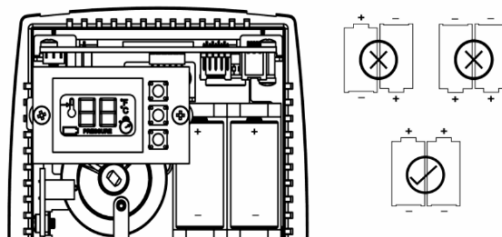

Figure 7. WPT Batteries
8. Install the batteries and close the top cover. The battery polarities are as shown in Figure 7.
Replace battery with CR123 type or equivalent from Panasonic, Sanyo, Energizer or Duracell only. Use of any other battery may present a risk of fire or explosion. See Figure 7 for correct polarity.